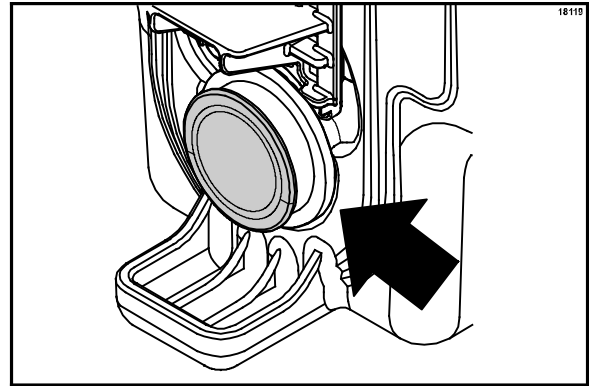

Figure 29
- Slide the product bag spout into the slot of the product bin. **IMPORTANT! Position the rear groove of the product bag spout into the slot of the product bin. Lock the spout into position by pushing down on the product bin slide until it snaps in place.** (See Figure 29.)